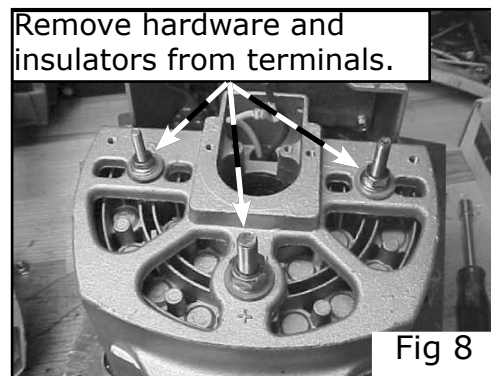

Fig 8
Step 6: Flip the rear housing over and remove all hardware and insulators from the three terminals. (Fig 8)